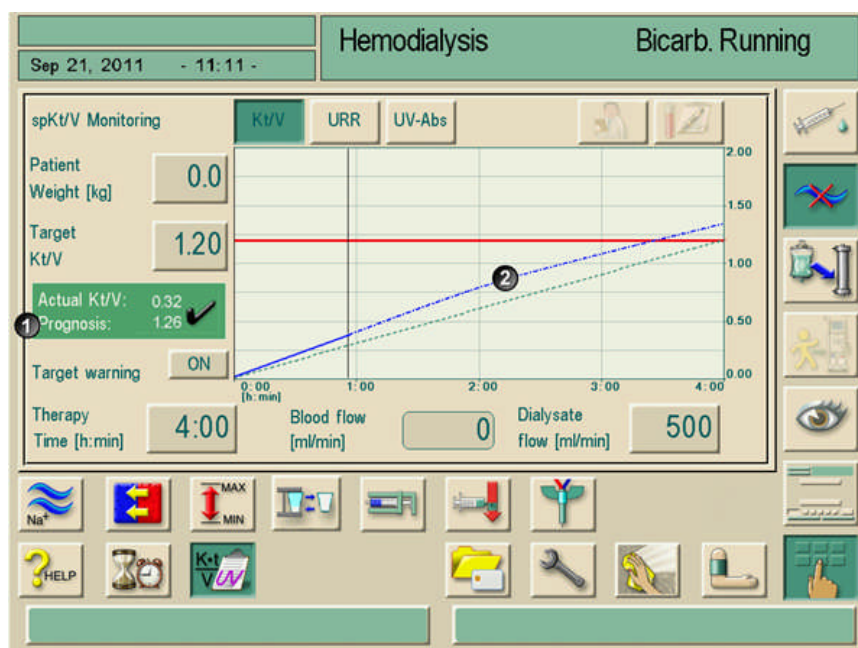

Fig. 10-14 Numerical and graphical display of the prognosis
In hemodialysis (HD) mode the user gets a “prognosis” of the estimated Kt/V value at the end of therapy. It is displayed numerically (Fig. 10-14, 1) and graphically (Fig. 10-14, 2). The blue actual progress line will be extended from the actual therapy status in order to predict the therapy progress.